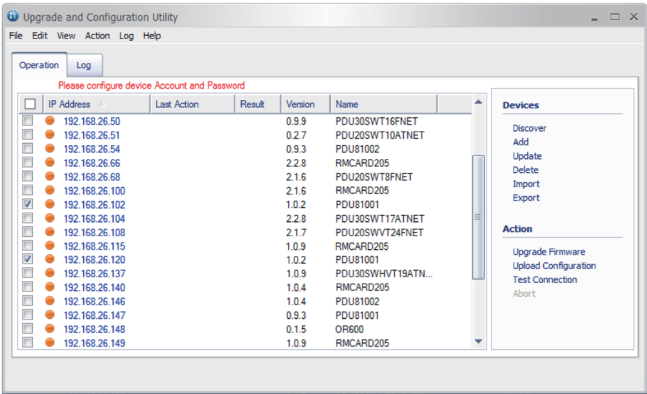

Figure 2
- 4. Check the checkbox to select devices listed in the **Operation View** (Shown in Figure 2).